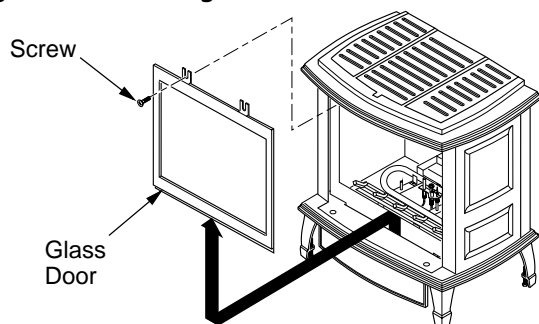

Figure 42 - Removing Glass Door from Burner System
2. Remove the screws from the 2 tabs at the top of the glass door while holding door securely keeping it from falling forward (see Figure 42).
3. Grasp door by both sides and ease it upward off of the lower bracket (see Figure 42).